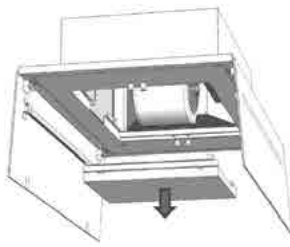

FIG.14
- › Remove the lower stainless steel as shown in Fig.14.